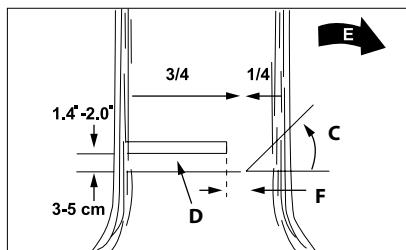

Fig. 15
Usually felling a tree consists of two basic operations: notching (C) and making the final cut (D). Start the notching (C) on the side of the tree that is in the intended direction of fall (E). Make sure that the notch does not go too deep into the trunk. The notch (C) must be made so that a sufficiently thick and strong part of the trunk (F) is left uncut. The notch must be wide enough to completely guide the falling of the tree when felling. Warning! Do not walk in front of a tree that has already been notched. The final cut (D) is made on the back side of the tree 3-5 cm above the horizontal base of the notch (C) (fig. 15).